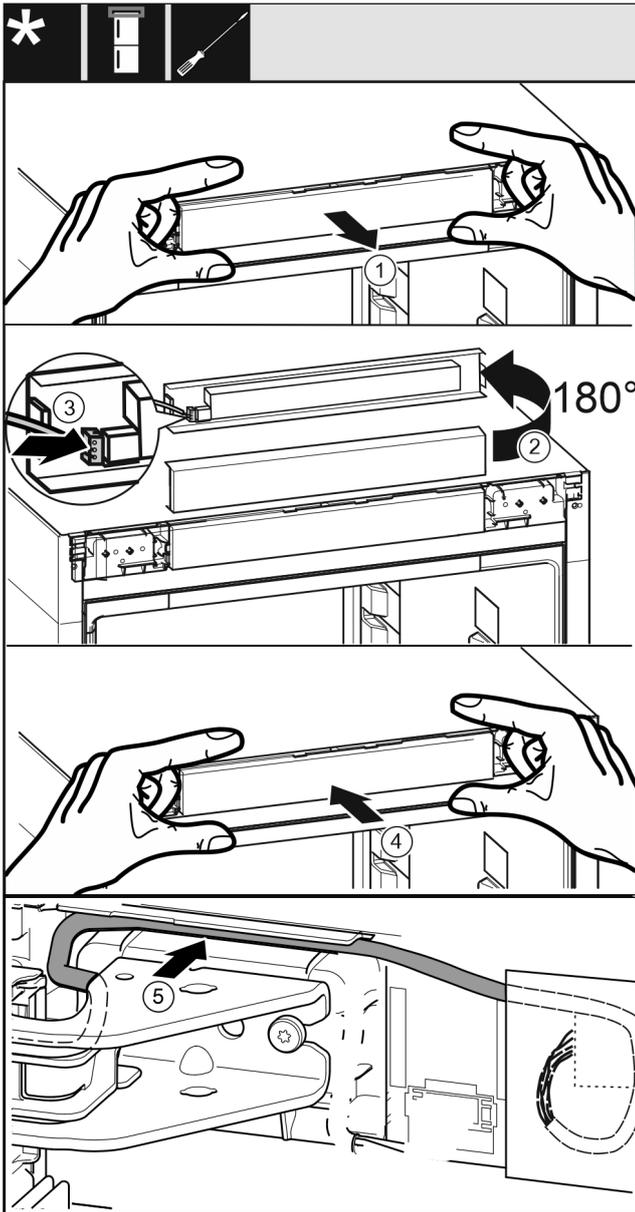

Fig. 32
- ▶ Remove the control panel trim carefully. Fig. 32 (1)
- ▶ Turn the trim up by 180°. Fig. 32 (2)
- ▶ Engage the plug on the control panel trim. Fig. 32 (3)
- ▶ Re-engage the control panel trim on the appliance. Fig. 32 (4)
- ▶ Lay the grey cable carefully in the guide above the top swap bearing block. Fig. 32 (5)